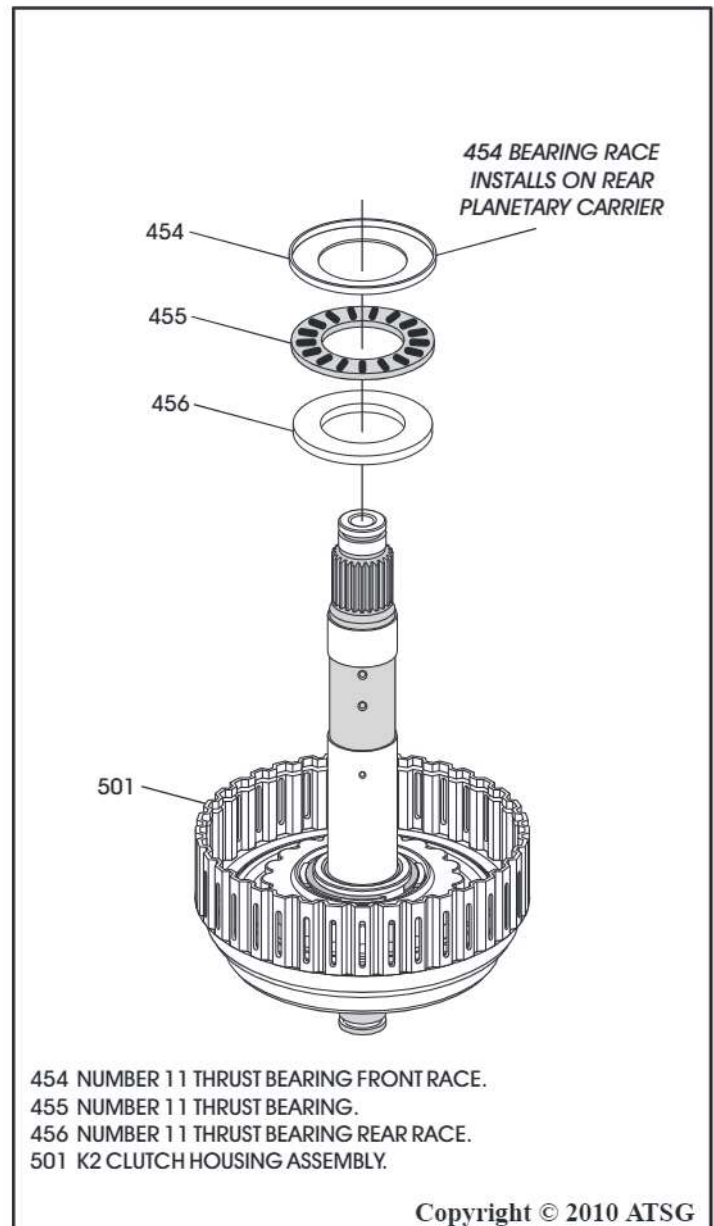

Figure 94
12. Install the number 11 thrust bearing *rear* race and the number 11 thrust bearing, as shown in Figure 94, and retain with Trans-Jel®.